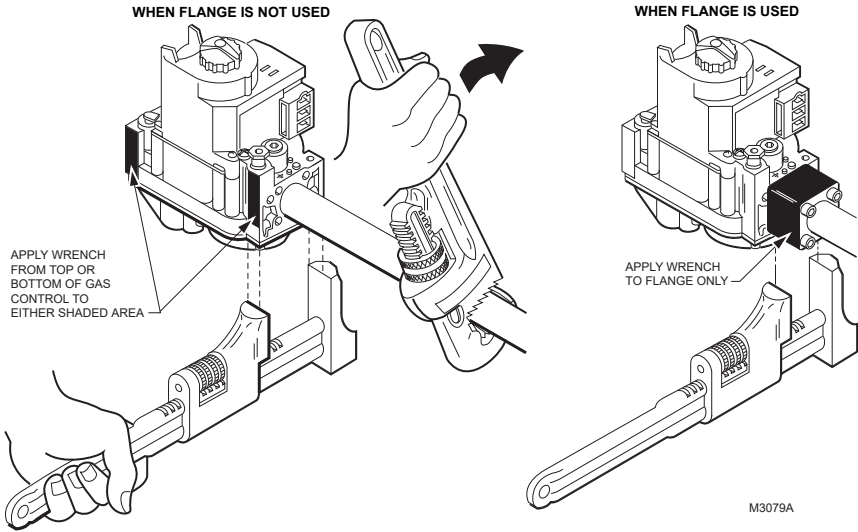

Fig. 5. Proper use of wrench on gas control with and without flanges.
Complete the instructions below for installing the piping, installing the control, connecting the pilot gas tubing and the wiring. Make sure the leak test you perform on the control after completing the installation includes leak testing the adapters and screws. If you use a wrench on the valve after the flanges are installed, use the wrench only on the flange, not on the control. See Fig. 5.
6. Connect the pipe to the control inlet and outlet. Use a wrench on the square ends of the control. If a flange is used, place the wrench on the flange rather than on the gas control. Refer to Fig. 5 and 6.